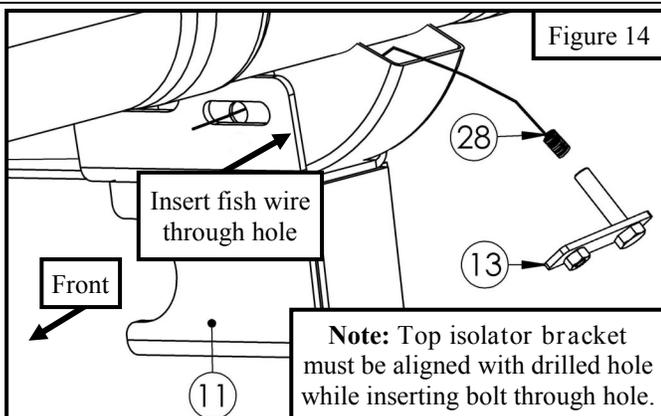

Figure 14
9. Align the top isolator mount bracket (Item 11) with the 1/2" drilled hole. **Note:** It is necessary to keep the top isolator mount bracket aligned with the hole until the bolt of the M10 bolt / M8 nut plate is through. Locate (1) M10 fish wire (Item 28) and insert end with spiral through the recently drilled 1/2" hole and out of vehicle frame. Then locate (1) M10 bolt / M8 nut plate (Item 13) and screw onto the fish wire. Pull the bolt / nut plate through the hole. See **Figure 14**.